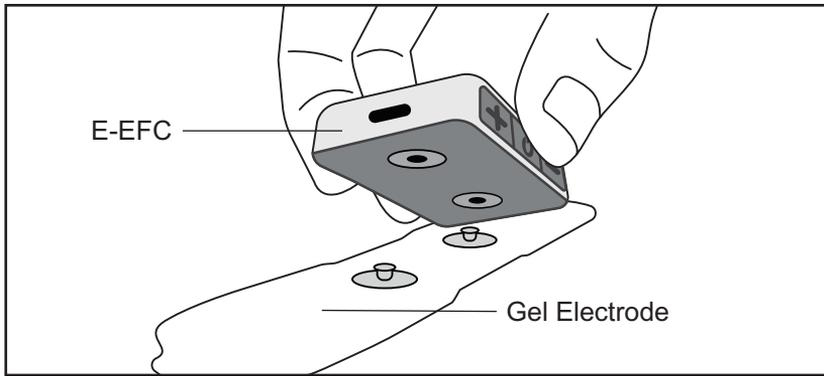

Figure 9-1: Gel Electrode and E-EFC connecting
4. Snap the E-EFC onto the Gel Electrode. See Figure 9-1.